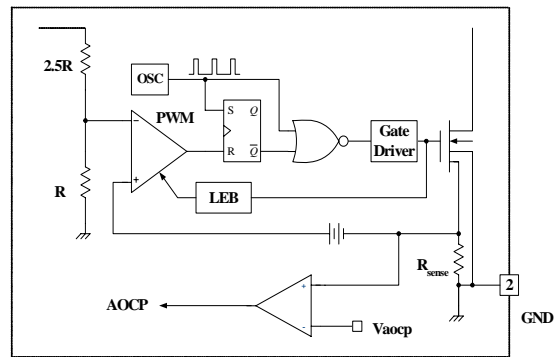

Figure 14. AOCP Block
4.2 Abnormal Over Current Protection (AOCP): When the secondary rectifier diodes or the transformer pins are shorted, a steep current with extremely high di/dt can flow through the SenseFET during the LEB time. Even though the FSCQ-Series has OLP (Over Load Protection), it is not enough to protect the FSCQ-Series in that abnormal case, since severe current stress will be imposed on the SenseFET until the OLP triggers. The FSCQ-Series has an internal AOCP (Abnormal Over Current Protection) circuit as shown in Figure 14. When the gate turn-on signal is applied to the power SenseFET, the AOCP block is enabled and monitors the current through the sensing resistor. The voltage across the resistor is then compared with a preset AOCP level. If the sensing resistor voltage is greater than the AOCP level, the set signal is applied to the latch, resulting in the shutdown of SMPS. This protection is implemented in the latch mode.